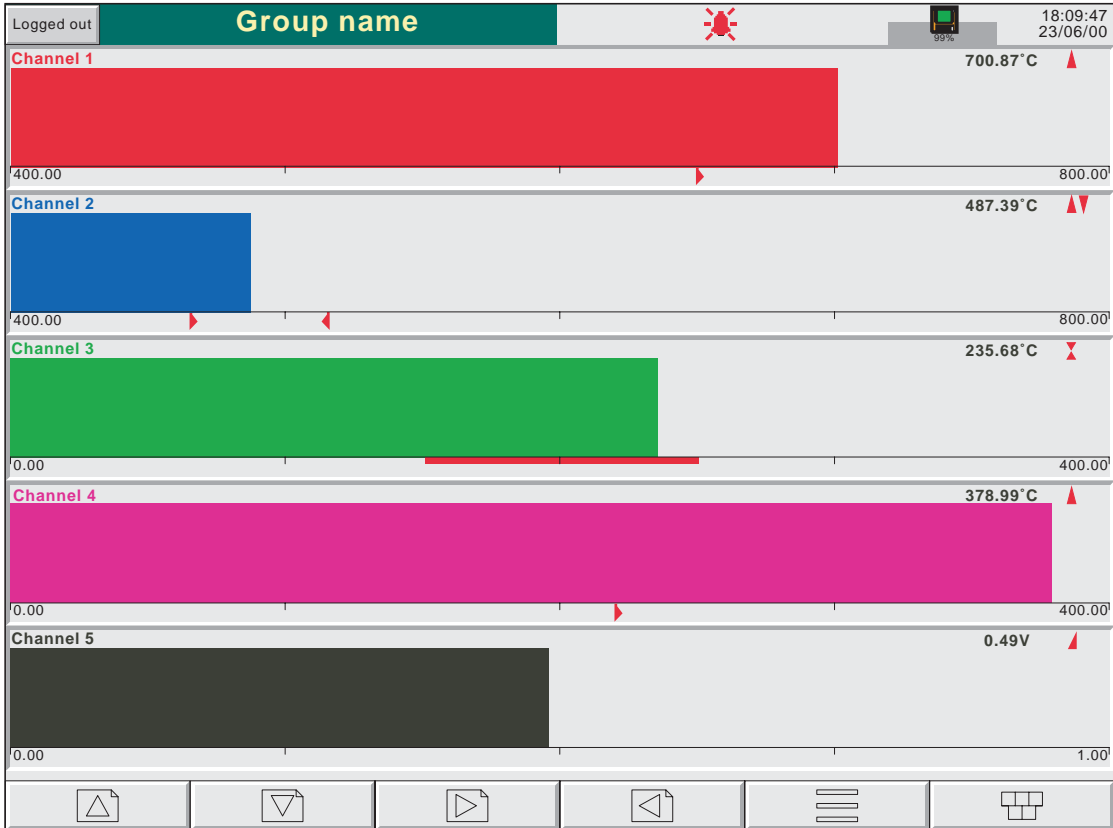

Figure 3.4.4a Horizontal bargraph display (1 to 12 channels)
Entered from Vertical bargraph or (if fitted) the Circular trend mode, by means of the down arrow key, or selected using the Root Menu 'Goto View' key, this display mode shows the Process Variable (PV) values as horizontal bars with digital values and alarm data displayed, as shown in figures 3.4.4a and 3.4.4b. Single column format is used when there are up to 12 channels in the display group; double column for more than 12 channels.